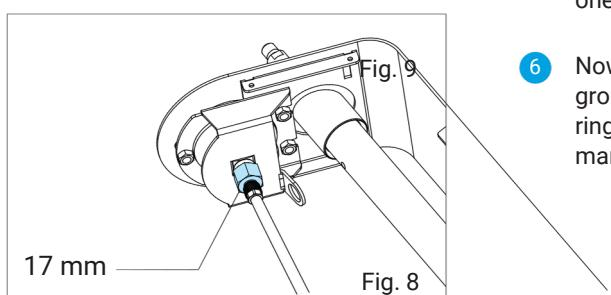

Fig. 8
- 3 There is a shallow slot at the bottom of the air pump casing (9). Carefully insert a slotted screwdriver into this slot (Fig. 8). Release the plate from the lock by pushing it slightly upwards. You can then push the plate further up by hand and remove it.
- 5 Then use a 17 mm open-end wrench to loosen the screw-on fitting directly under the manometer at the tube attachment (Fig. 8).
- 10 Now connect the pump tube - if loosened - to the manometer and hand-tighten the screw-on fitting (with the 17 mm open-end wrench (Fig. 8).